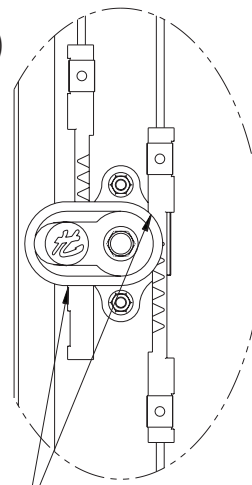

FIGURE 2
**Step 3** - Assemble handle to latch housing as shown in figure 2.